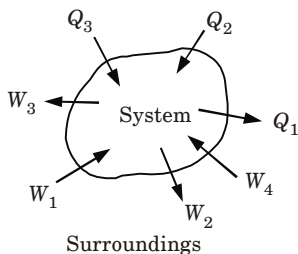

Fig. 1.27.2. System-surroundings interaction in a process involving many energy fluxes.
5. If there are more energy transfer quantities involved in the process, as shown in Fig. 1.27.2, the first law gives